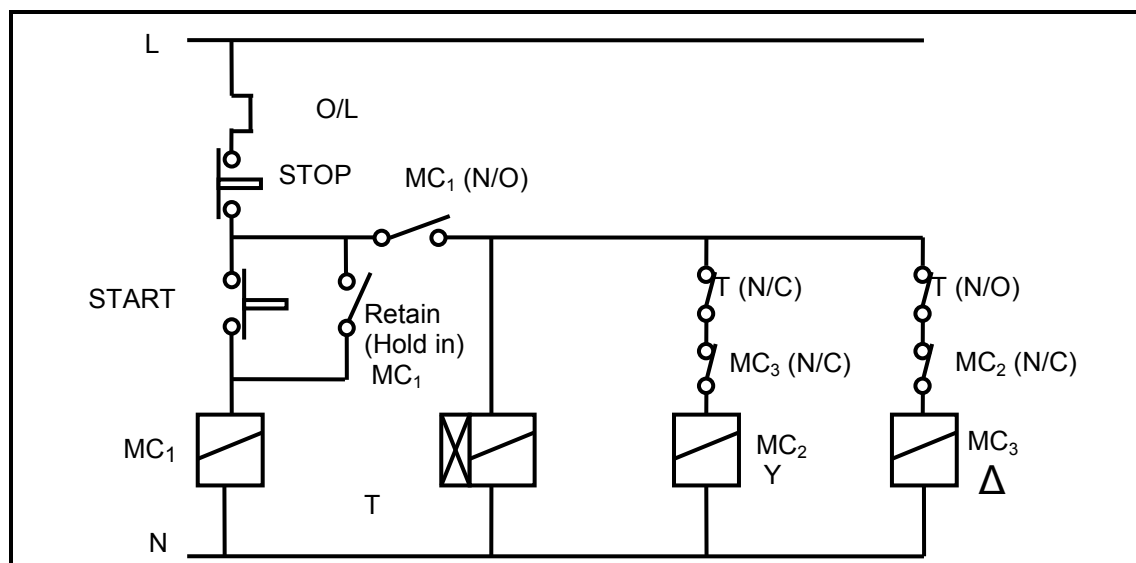

FIGURE 4.1: CONTROL CIRCUIT OF A STAR-DELTA STARTER
4.8 FIGURE 4.1 represents the control circuit of a star-delta starter.